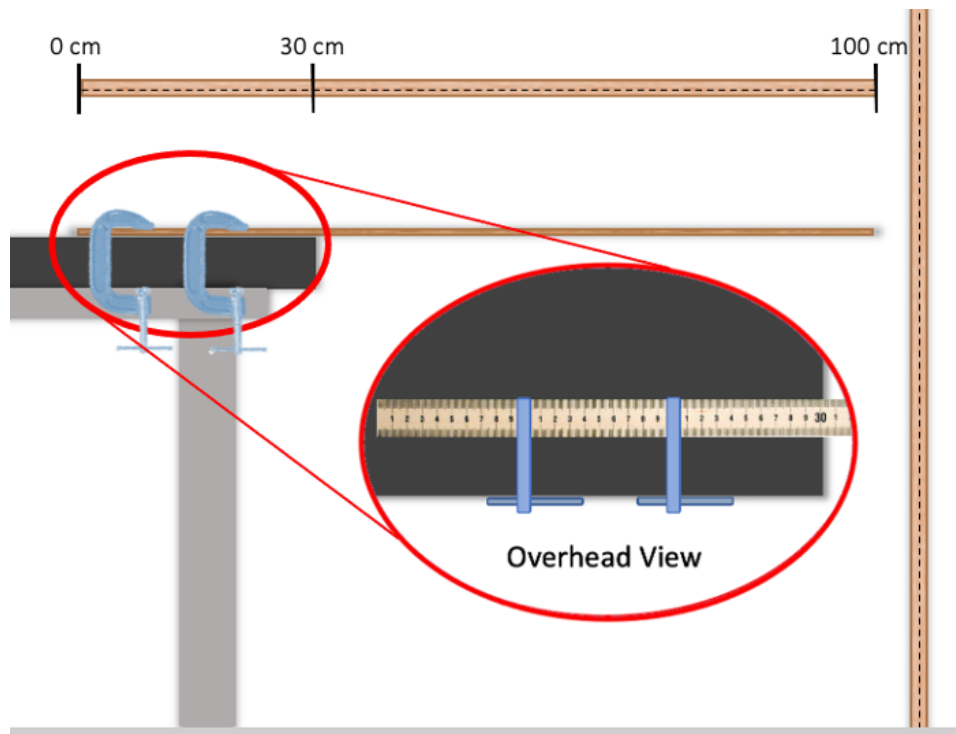

Figure 2: Experimental setup
Step 1: Using the C-clamps, attach the meter stick horizontally to a table or desk surface with 70 cm of the meter stick hanging over the edge of the surface, as shown in Figure 2.